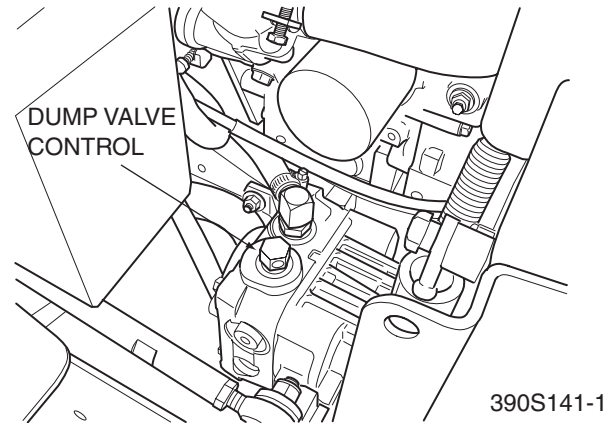

Figure 4-2 Dump Valve Control
12. **Dump Valve Control Levers (Figure 4-2).** Located on the hydraulic pumps, used to "free-wheel" the mower. Rotating the valves clockwise until they stop allows the unit to move under hydraulic power. The valves must be in this position and torqued to 10ft/lbs during operation of the mower. Rotating the valves counter-clockwise allows the mower to be moved by hand (free-wheeling).
To “free-wheel” or move the mower around without the engine running, place the dump valve levers in the FREE-WHEEL position (Figure 4-2). Disengage the parking brake and move the mower by hand. The dump valve levers must be returned to the DRIVE position and torqued to 10ft/lbs to drive the mower.